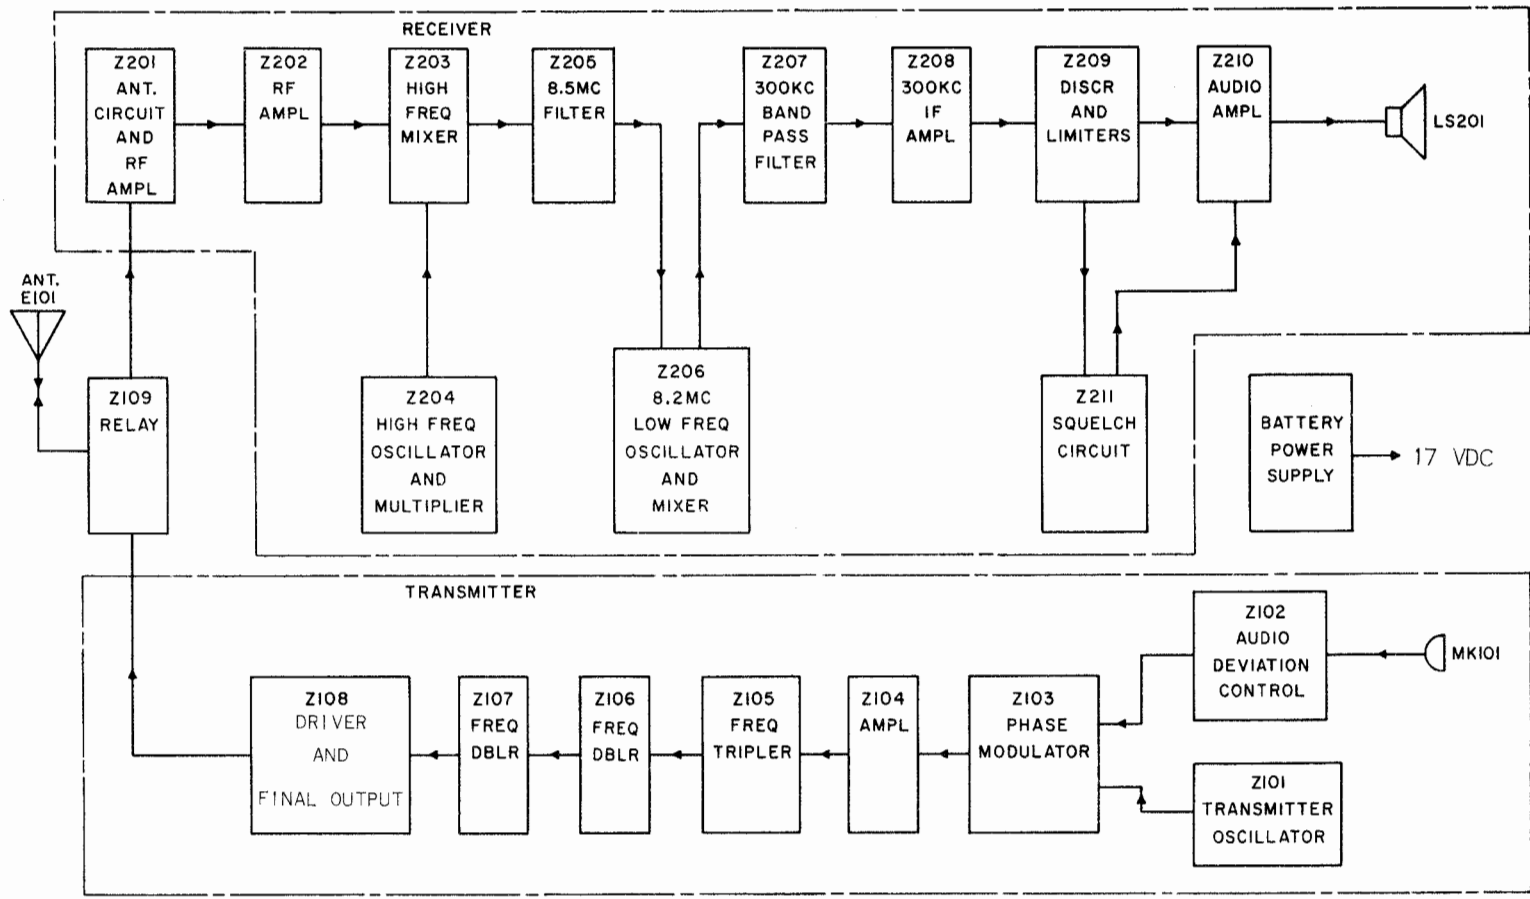

Figure 4-1 Block Diagram, AN/PRC-40AX
Radio Set AN/PRC-40AX consists of three functional sections: transmitter, double conversion receiver, and battery power supply. The transmitter and receiver are constructed on separate printed circuit boards. Replaceable plug-in assemblies are used throughout the Radio Set. (See table 1-2.) A single antenna is used for both transmitting and receiving. Pushing the "press-to-talk" switch on the microphone actuates a relay which switches the antenna from receiver input to transmitter output. The same relay also switches operating voltage from the receiver to the transmitter. Figure 4-1 is a block diagram of the Radio Set AN/PRC-40AX. Each block in the receiver and transmitter represents a replaceable plug-in assembly.
a. TRANSMITTER. --The transmitter (figure 4-1) is a phase-modulated or indirect FM type. The transmitter consists of nine replaceable plug-in assemblies (Z101 through Z109, including relay circuit Z109), antenna E101, and microphone MK101. Depressing the "press-to-talk" switch on MK101 energizes the relay Z109 which applies operating voltage to the transmitter and switches antenna E101 to the transmitter output of Z108. Speaking into the microphone applies an audio signal to the deviation control Z102. The audio signal is clipped and shaped in Z102 and applied to phase modulator Z103 where it modulates the RF carrier. The RF carrier is generated in the transmitter oscillator Z101. The oscillator is crystal-controlled. The output of the oscillator is applied to phase modulator Z103.